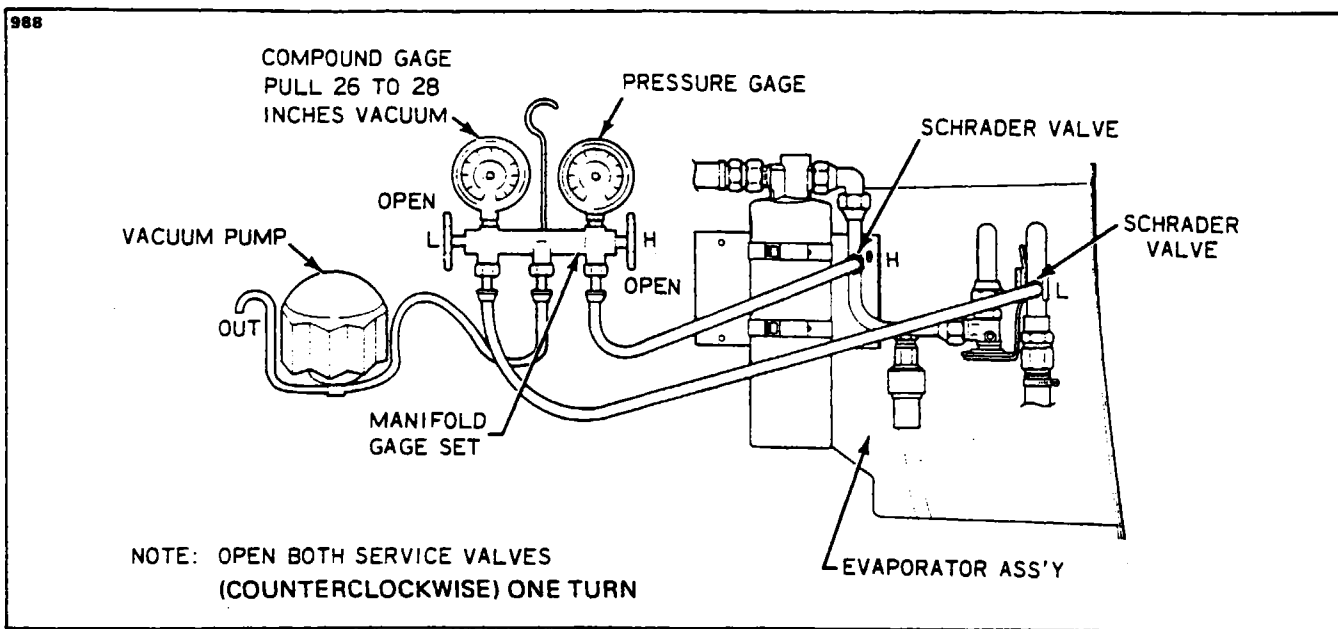

Figure 14-28. Evacuation Hookup
- b. Connect the manifold gauge set to the airplane service valves. (Refer to Figure 14-28.)